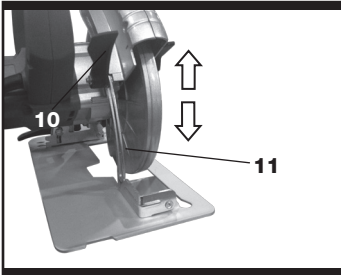

Fig. 3-1
Lift the depth adjustment lever (10) and raise the saw body away from the base plate (3). Set the depth which shown on scale (11) and push the lever (10) down to lock (See Fig. 3-1 and Fig. 3-2). Always add 3mm to your depth of cut so the blade can cut through the material.